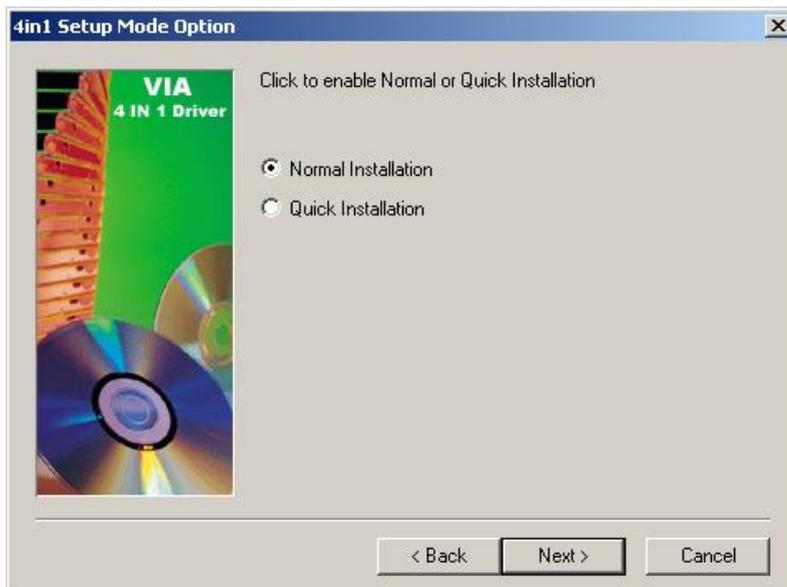

Figure 7-5: VIA® Chipset Driver Installation Type
Step 6: Select “**Normal Installation**” or “**Quick Installation.**” (See **Figure 7-5**) Click “**NEXT**” to continue.